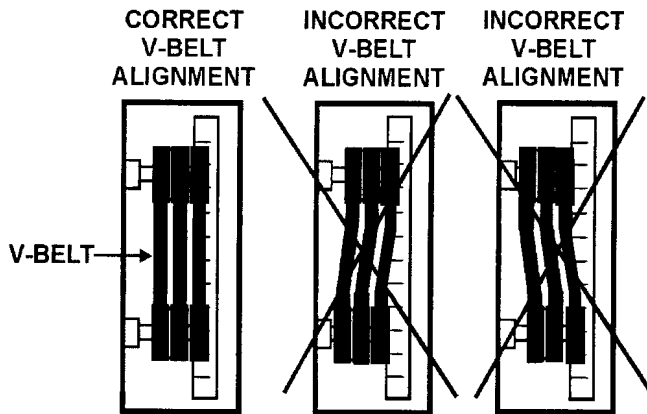

Figure 9. V-Belt Alignment
2. Check uniform parallelism (Figure 9) of V-belt and pulley (sheaves). Use a straight-edge or machinist's square against both pulleys and adjust both pulleys until equally aligned.